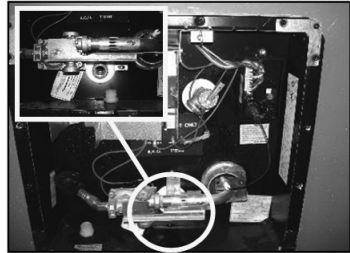

Fig 1: Water heater drain plug
4. Remove the drain plug from the tank (storage) water heater (**Fig 1**) (typically located outside the RV). **Do not remove the drain plug if the water heater is hot or under pressure. Release pressure & let it cool off.**